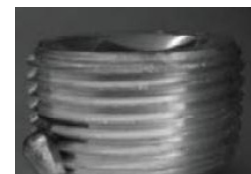

Figure 13
1. Verify sufficient STL lubricant is on conduit entries and that all unused conduit entries on the end caps are closed with lubricated plugs (see Figure 13).
2. Verify conduit is installed to at least five (5) full threads into the end cap conduit entries. Recommend approximately 1/8" bead STL on conduit entries.
6. Verify all wires are safely and neatly inside driver cover and not on top of driver. Re-attach driver cover to fixture housing (see Figure 13).